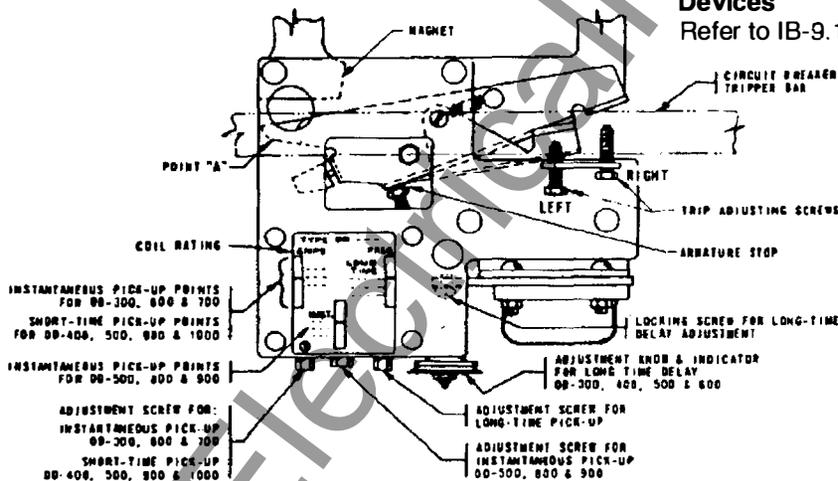

Fig. 10 — Overload Device Adjustments
**Long Time Delay Band Adjustment** (Figure 10)
**Pick-Up Setting Adjustments** (Figure 10)
- (See Figure 10.) Back out on the two trip adjusting screws until the screws are engaging the nut by approximately two turns.